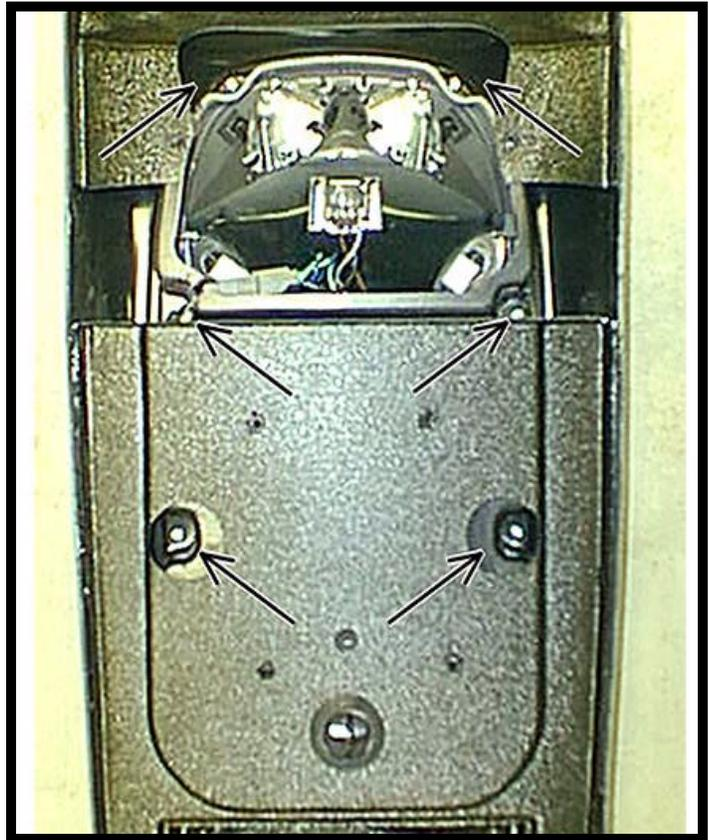

Figure 13
6. Install and secure secondary light pod assembly in overhead console with six (6) OEM screws. See Figure13. **Note:** Be sure light wiring is accessible.